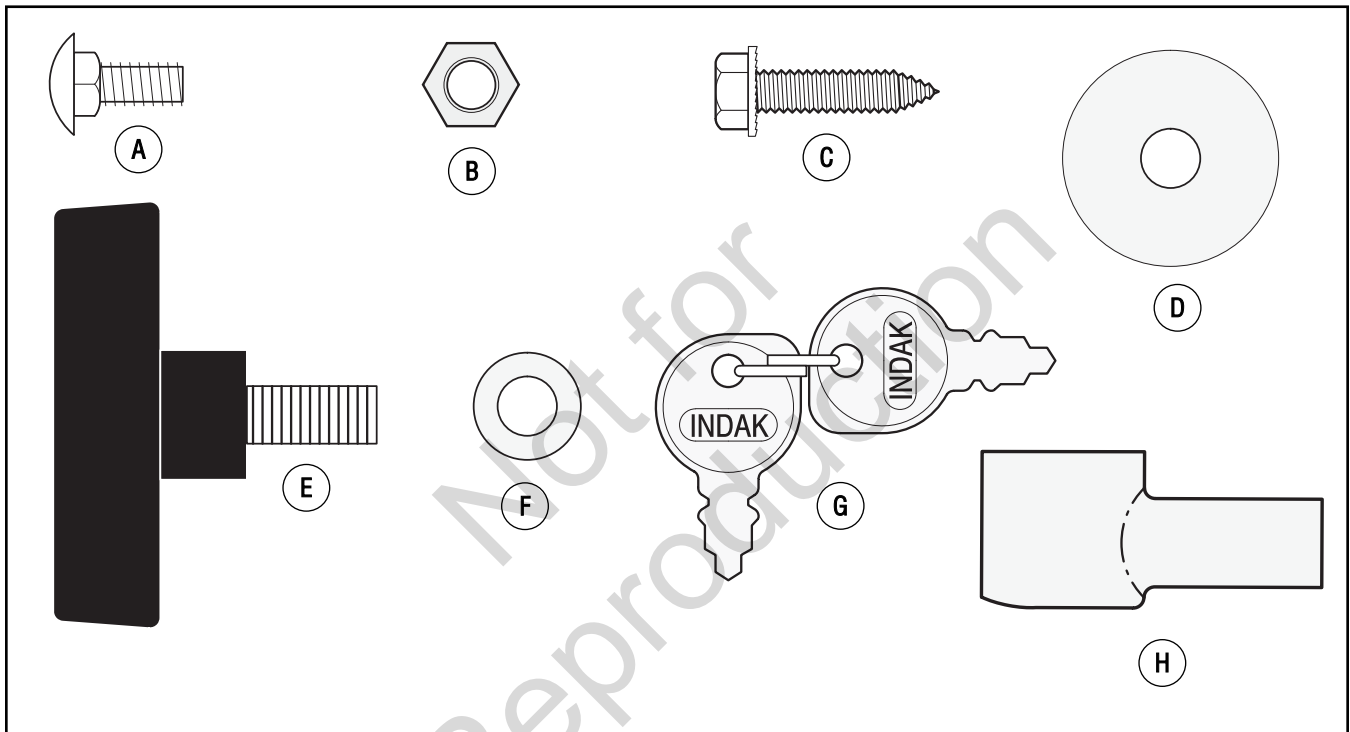

Figure 3: Parts bag components
A - Wing bolt (Also see 'E' in Figure 3)
B - Washer (Also see 'F' in Figure 3)
A - Screw (Also see 'C' in Figure 3)
B - Washer (Also see 'D' in Figure 3)
- A - Carriage bolt (Also see 'A' in Figure 3)
- B - Hex nut (Also see 'B' in Figure 3)
- H - Terminal cover (Also see 'H' in Figure 3)